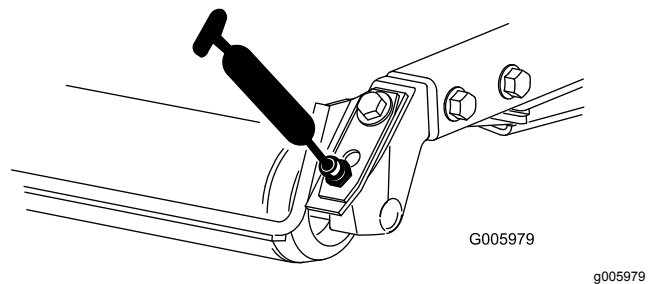

Figure 48
- Rear-roller bearings (2 per cutting unit) (Figure 48)